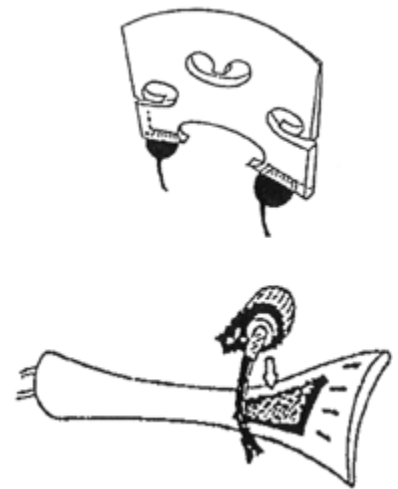

Fig. 1
2. Wedge the two round transducers underneath each bridge foot. The metal sides should be positioned towards the instrument's top (see fig. 1). The transducers do not need to be glued to the violin -- they are held in place by the bridge's pressure.